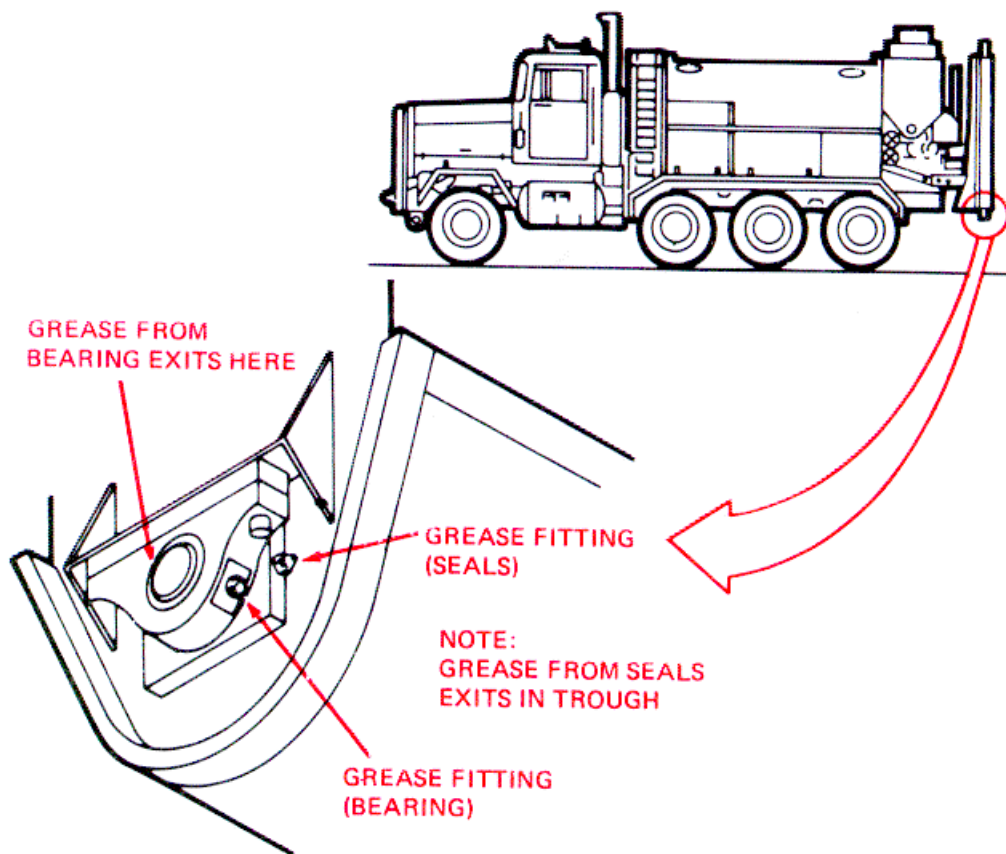

Figure 3-1. Auger Bearing.
a. *Auger Bearing* (See fig. 3-1.) Flush and lubricate this bearing every four hours during operation, and also after every cleanup. Lubricate it while the auger is turning. There are two fittings, one on the bearing and one over the seals. Use waterproof lithium grease on this bearing and seals. Place the grease gun on each fitting and pump in enough grease to displace all the previous grease. Wipe off the excess. This bearing cannot be greased too often or too much.